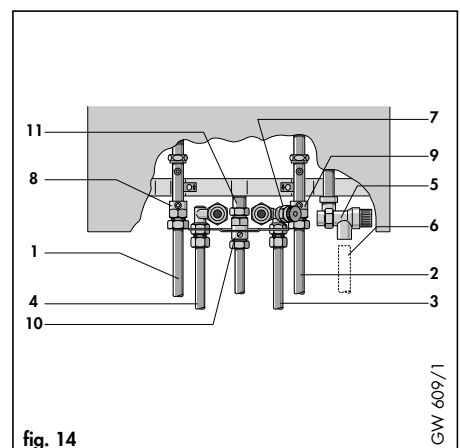

fig. 14
4.5.3 Pipework connections (fig. 14)
Figure 14 shows the central heating, domestic hot water, mains cold water, gas and pressure relief valve connections.
4.5.3.2 Cold mains water inlet and hot water outlet (fig. 14)
The boiler is supplied with a 20 x 15 mm gas service valve (10, fig. 14). Fit the 20 mm compression fitting to the boiler gas inlet (11, fig. 14) and tighten. Install a gas supply pipe not less than 15 mm diameter and connect to the gas service valve. (Ensure the gas supply pipework is adequately sized such that a 20 mbar - (8" w.g.) - gas pressure is available at the boiler inlet at full flow rate). Tighten all union connections.